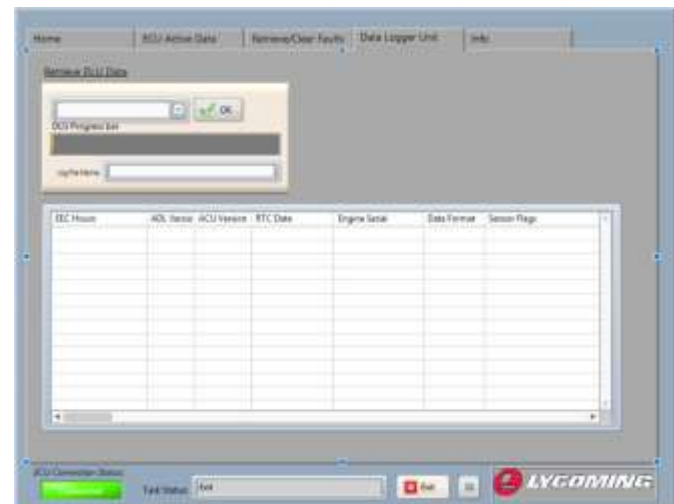

Figure C-31
2. Click on the “Data Logger Unit” tab (Figure C-31).